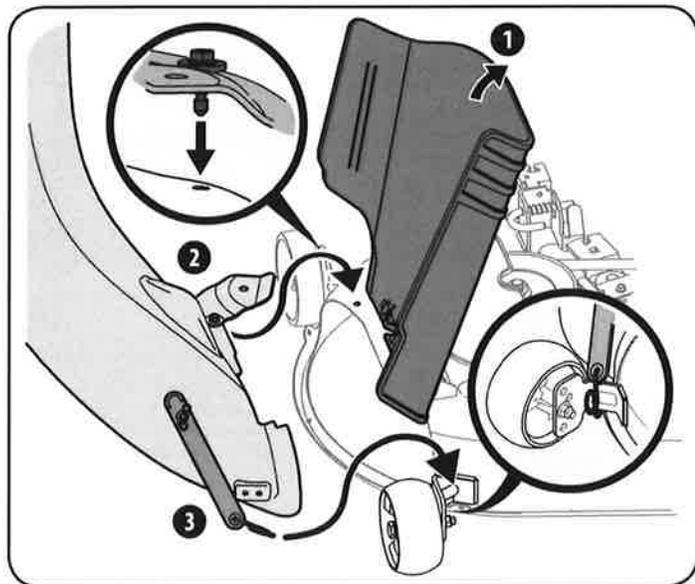

Figure 22
2. Install the deck mounting pin (711-05049) up into the chute elbow using two flat washers (936-0176) from hardware pack 689-00318A and secure with a flange lock nut (912-3027), as seen in Figure 22.